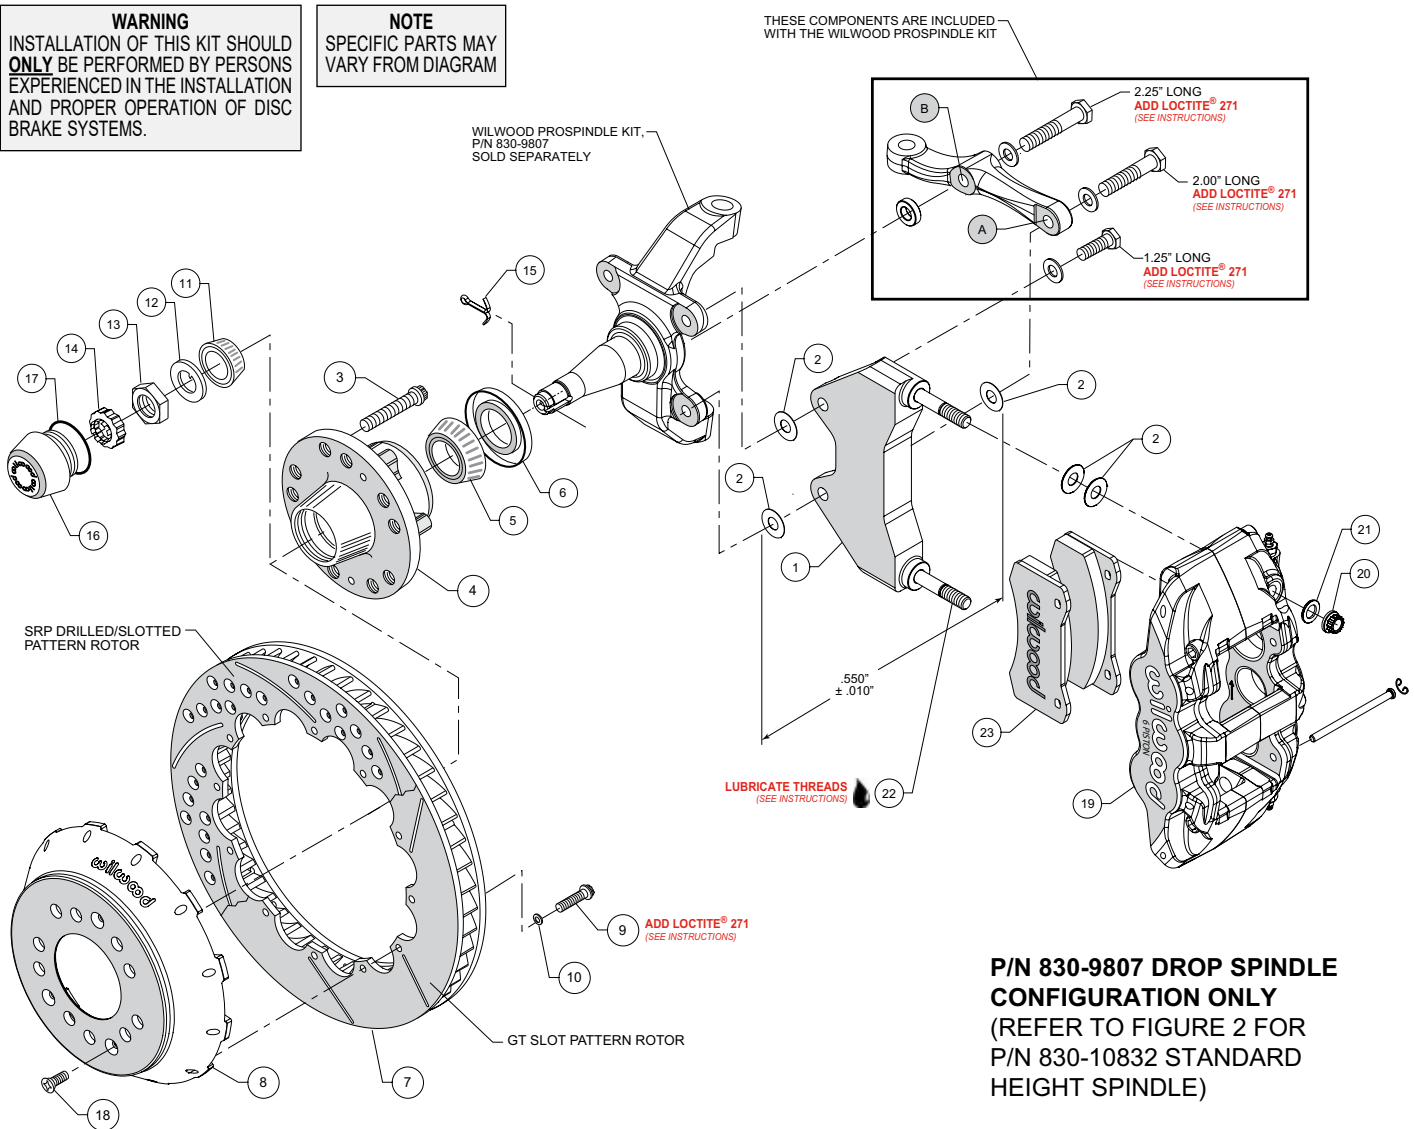
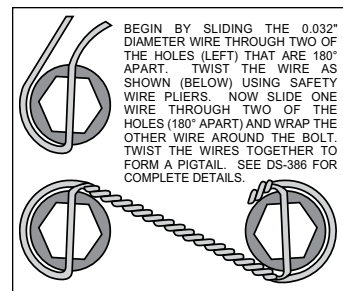

Figure 1. Installation Configuration For Drop Spindle, P/N 830-9807
Figure 4. Safety Wire Diagram
Numbers in parenthesis refer to the parts list and Figures 1 and 2 on the preceding pages.
- NOTE:** Each Wilwood ProSpindle kit includes bolts, washers, and a spacer to mount the steering arm and caliper bracket. The various bolts are identified by length in the following instructions and in Figures 1 and 2.
**For 2" Drop ProSpindle (P/N 830-9807):** The caliper bracket assembly (1) should initially be installed with clean, dry threads on the mounting bolts.
- Orient the bracket as shown in Figure 1 and Photo 1. Install at top spindle hole using 1.25" long bolt and .06" thick washer (from ProSpindle kit), and one .030" thick shim (2) between the bracket and spindle, Figure 1.
- Orient the steering arm, and identify the hole marked 'A', as shown in Figure 1. Install at bottom spindle hole using 2.00" long bolt, .06" thick washer (from ProSpindle kit), one .030" thick shim (2) between the steering arm and the bracket, and another .030" thick shim (2) between the bracket and spindle, Figure 1. The bracket is located between the steering arm and spindle. **NOTE:** The bracket and shim washers must add up to a total thickness of .550"  $\pm$  .010", Figure 1.
- Finish attaching the steering arm through the hole marked 'B', as shown in Figure 1. Install using 2.25" long bolt, .06" thick washer, and .25" thick spacer (all from ProSpindle kit), Figure 1.
- Install the grease seal (6) by pressing into the backside of the hub (4), flush with the end of the hub, Photo 4.
- Orient the rotor (7) and the hat (8) as shown in Figures 1 or 2, and Photo 5. Attach rotor to hat using bolts (9) and washers (10). Apply red *Loctite*® 271 to the bolt threads and torque to 155 in-lb using a criss-cross pattern. For an added measure of security, the bolts may be safety wired using standard 0.032 inch diameter stainless steel safety wire as shown in Figure 4. Refer to Wilwood's data sheet DS-386 (available at [www.wilwood.com/Pdf/DataSheets/ds386.pdf](http://www.wilwood.com/Pdf/DataSheets/ds386.pdf)) for complete safety wire installation instructions.
- Screw dust cap (16) into hub (4), Photo 7. Friction created by the o-ring (17) on the dust cap keeps it from unscrewing.
- Slide the hat/rotor assembly (7/8) onto the hub (4) taking care to align the small countersunk holes in the hat with the small threaded holes in the hub. **NOTE:** The hat must fit flush against the hub face or excessive rotor run out may result. Install three flat head screws (18) through the small holes in the hat (8), Photo 7, and torque to 85 in-lb.
- NOTE:** This kit contains distinct right and left hand calipers that must be mounted in a specific direction, as described below. Lubricate the caliper mounting studs (22) with lightweight oil. Initially place two .030" thick shims (2) on each stud as shown in Figure 1 or 2, and Photo 8. Mount the caliper (19) onto the bracket (1) using lock nuts (20) and washers (21), Figure 1 or 2. Ensure that the caliper is mounted so the largest pistons are at the rotor exit end of the caliper, in relation to the direction of rotor rotation. Temporarily tighten the lock nuts. View the rotor through the top opening of the caliper. The rotor should be centered in the caliper, Photo 9. If not, proceed as follows:
- For the lower bracket mount bolt, if a shim was added between the bracket and spindle, then a shim must be removed between the steering arm and bracket, such that the total thickness of bracket and shims remain equal to  $.550 \pm .010$ ", Figure 1.
- Adjust by adding or subtracting shims (2) between the bracket and the spindle. Always use the same amount of shims on each of the two mounting bolts.
- Remove the two pad retaining pins from the caliper (19) by carefully popping out the pin retaining clips and sliding out the pins. Insert the brake pads (23) into the caliper from the bottom, Figure 1 or 2, and Photo 10. With the friction material facing the rotor, secure the brake pads in place with the pad retaining pins and clips, Photo 11. Reinstall the caliper onto the caliper mounting bracket and temporarily tighten the lock nuts. Check that the top of the brake pad is flush with the outside diameter of the rotor, Photo 12. If not, adjust by adding or subtracting shims (2) between the caliper and the bracket. After the caliper pad height is set, torque the caliper lock nuts (20) to 47 ft-lb.